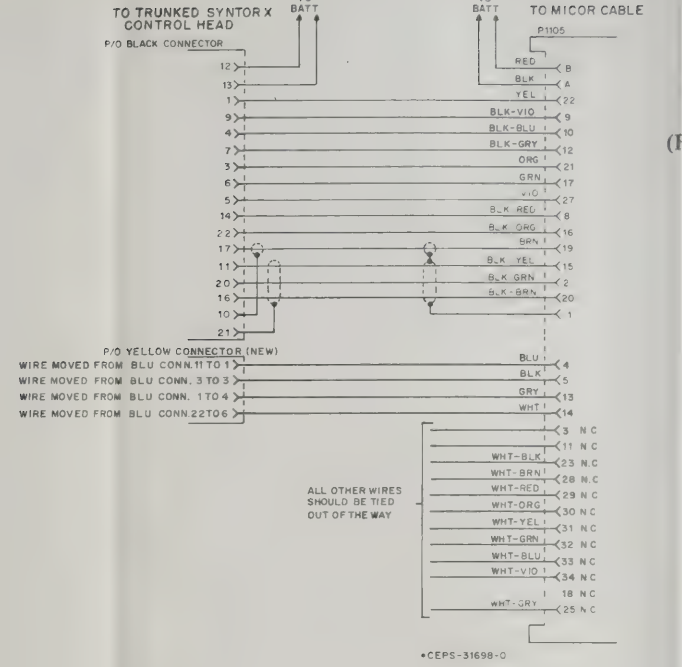

Figure 2. Trunked Micor Cable to Trunked SYNTOR X Control Head Wiring Diagrams
Step 1. Remove the following wires from the blue connector of the TKN6454B *Micor* Cable Kit (using provided tool, part no. 66-84690C01), and install these wires in the provided yellow connector, part no. 14-84590B06. (Refer to Figure 2.)